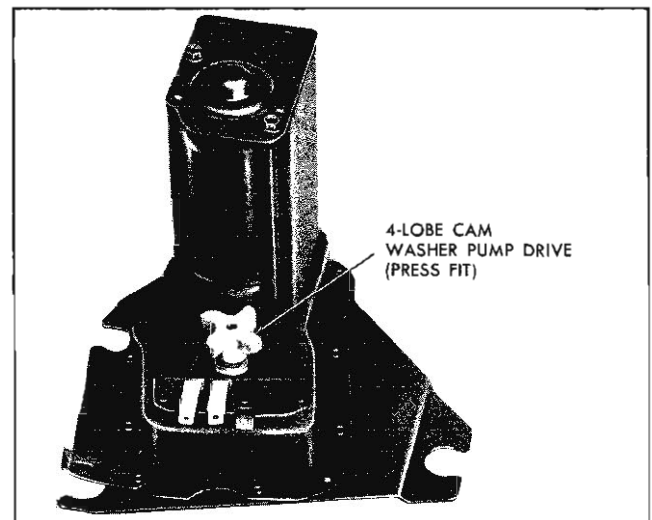

Fig. 64—Washer Pump Drive Cam
2. Remove washer pump drive cam as required (fig. 64). The cam is pressed on the shaft but can be wedged off by using two screwdrivers between cam and plate.